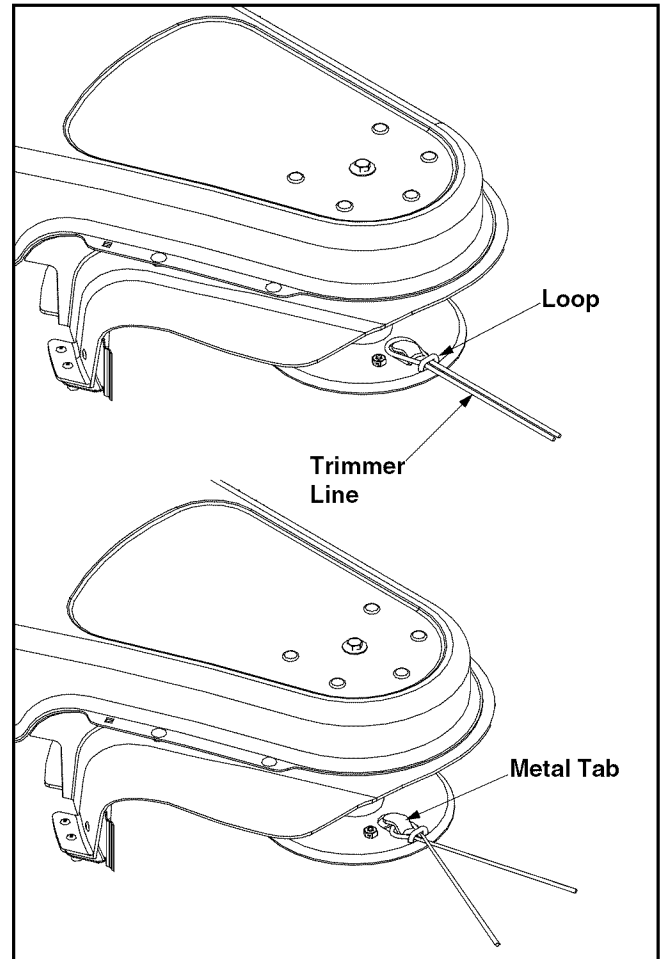

Figure 6
- Fold new trimmer line in half and thread the ends of line through the loop from the inside out without going all the way through the loop. See Figure 6.